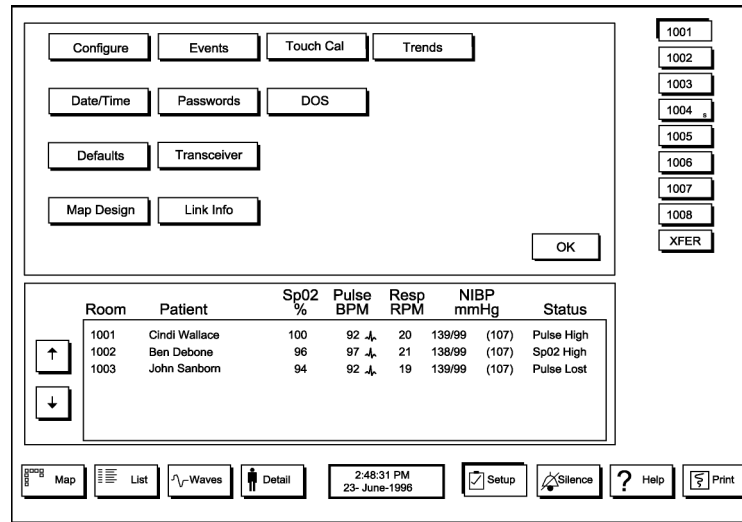

Figure 12: System Setup Function Select Screen
- Click the number buttons or use the keyboard to enter the system password and click the Enter button or press the keyboard Enter key. The System Setup Function Select screen is displayed as shown in Figure 12.